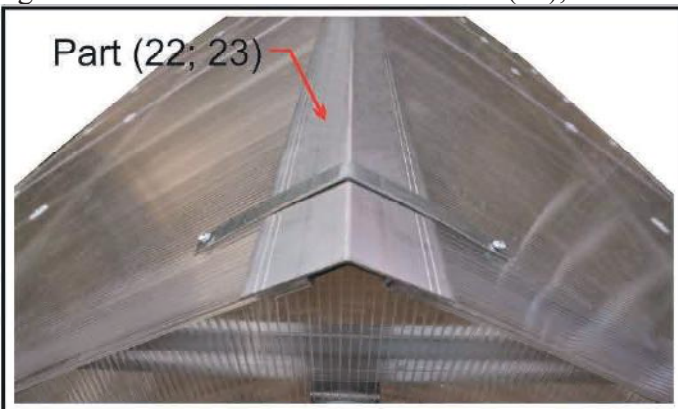

Fig. 22.4
The upper ends of the sheets fit into the ridge (22; 23). Ending F-profiles, which are fixed by F-profile holders (38), are put onto the lower ends of the sheets (39; 40, and 41) (Fig. 22.4 – 22.7). The holders are tightened to the frame with M5-40 bolts (29), M5 nuts (30), and gaskets (31).